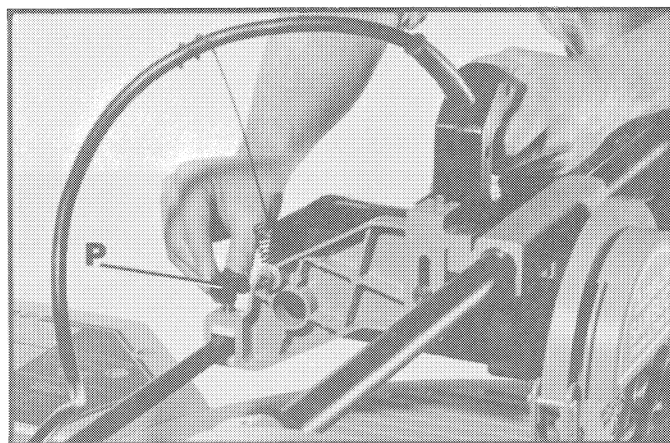

Fig. 2
2. Tighten cuttinghead lock knob (P) Fig. 2.